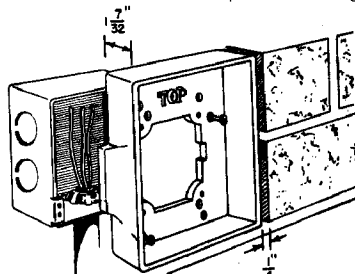

Figure 1
1. Set standard 4" or 4-11/16" box into wall 1-1/8" to 1-1/2" so front edge of adapter will be flush, or recessed not more than 1/4" from finished wall. Fasten Adapter to box with two 8-32 x 5/8" flat head screws provided – side marked "TOP" at top of box (See Figure 1)